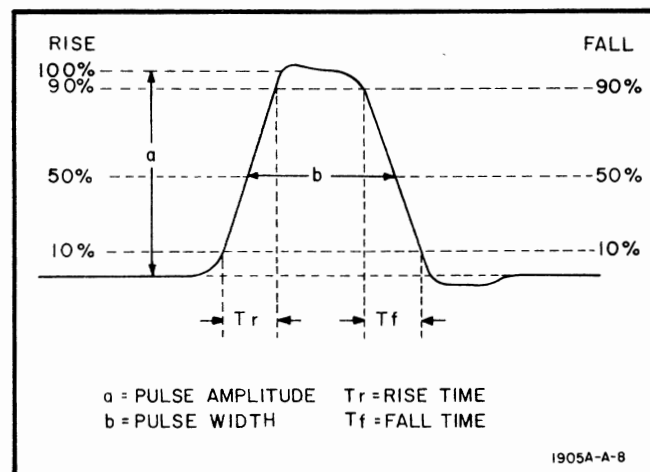

Figure 5-2. Pulse Characteristics
e. The characteristics of the observed pulse should be as follows (refer to Figure 5-2):